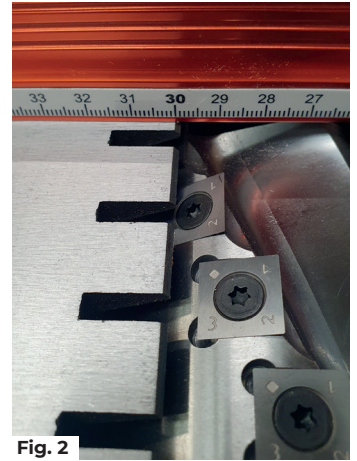

Fig. 2
- 9) Re-check the table level checking height of out-feed table in relation to the cutter block; "Drag test" (Fig. 2).